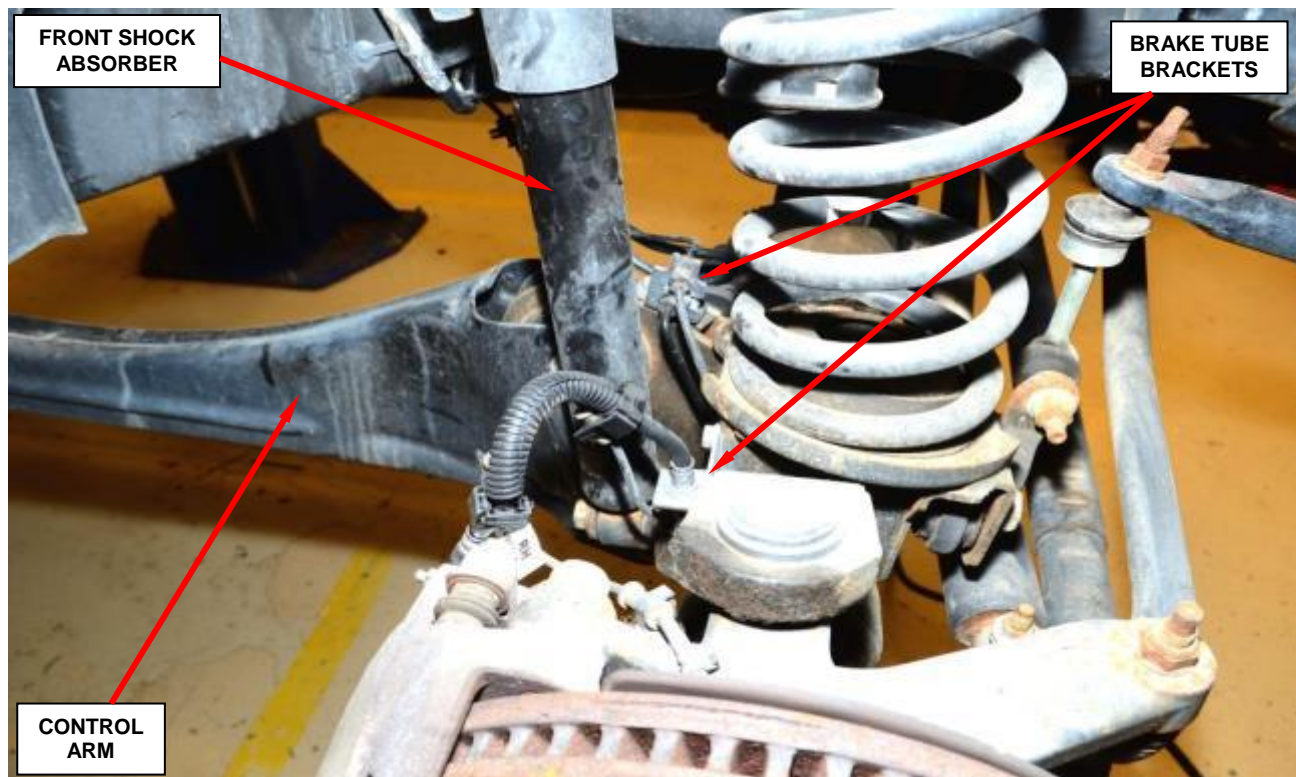

Figure 35 – Brake Tube Brackets
5. Remove and save the brake tube bracket bolt from the right and left control arm brackets (Figure 35).
6. Remove and save the brake tube bracket bolt from the right and left coil spring lower bracket (Figure 35).
14. Install the brake tube bolt from the coil spring lower bracket (Figure 35).
15. Install the brake tube bracket bolt from the control arm brackets (Figure 35).